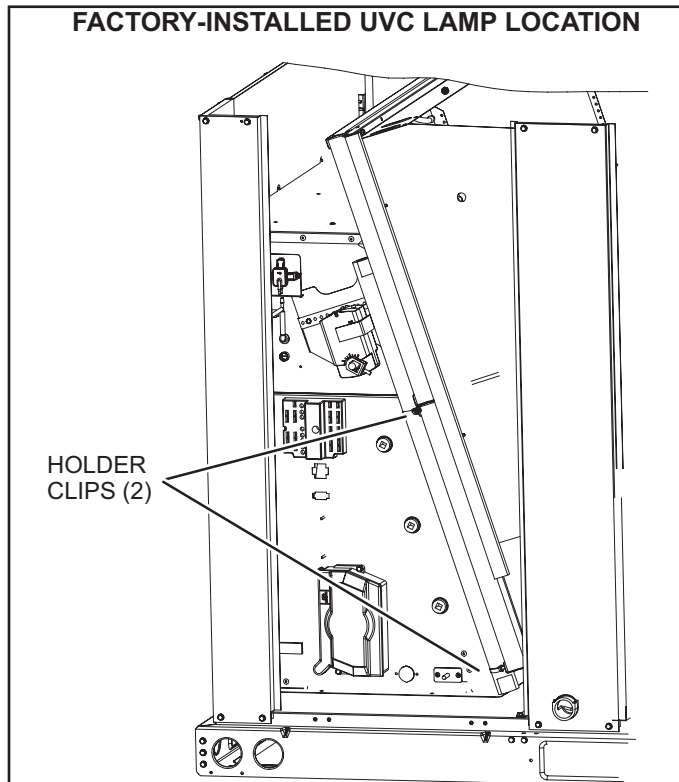

FIGURE 39
- 1 - Cut wire ties and remove the UVC lamp attached to the filter rack. See FIGURE 39.